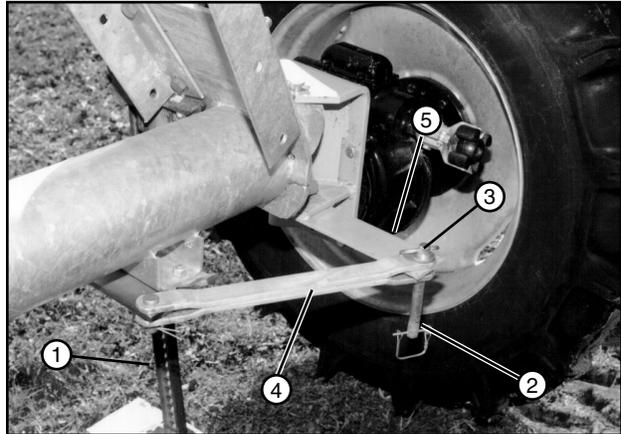

Figure 86-1 1. Jack 2. Lynch Pin 3. Torque Pin 4. Tow Link Bar 5. Steering Arm
1. Use a jack to lift one side of the drive unit until the tire is off of the ground. See Figure 86-1.
3. Remove the lynch pin from the torque pin, then remove the torque pin and disconnect the tow link bar from the steering arm. See Figure 86-1.